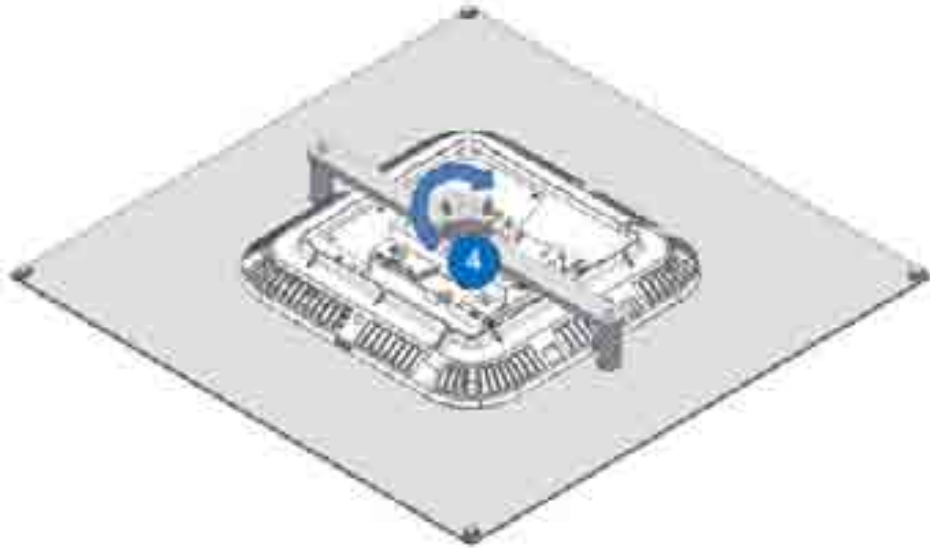

Figure 5-76. Securing Plate to Flat Bar
5. Tighten knob to secure Flat bar in place. Refer to Figure 5-76.